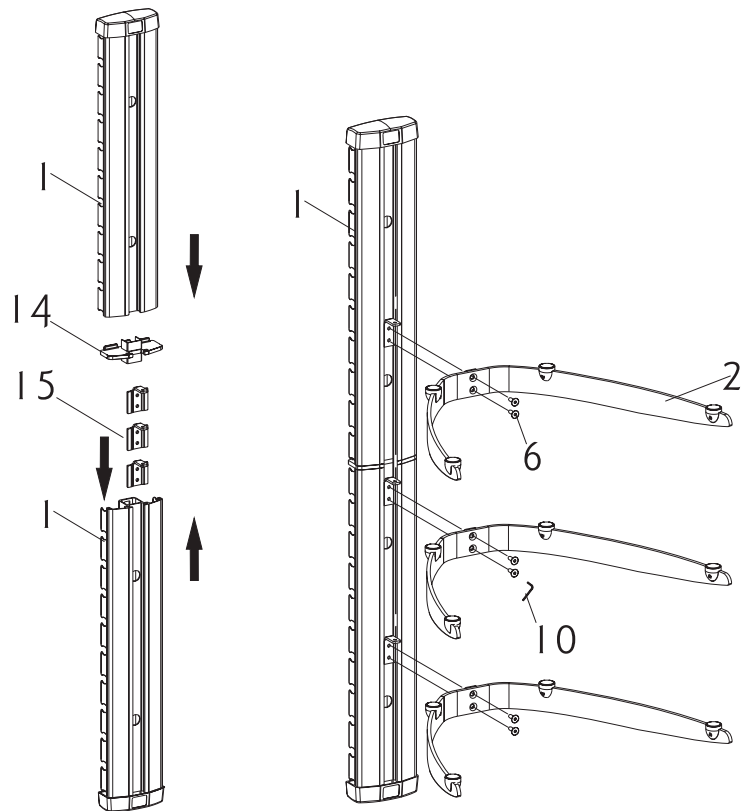

Fig. 2
Slide the three Joint Planks (15) into the Wall Brackets (1) and join the two Wall Bracket sections using the Joint Blocks (14) (see Fig. 2). Attach the three Shelf Brackets (2) to the Wall Brackets using the Socket Head Bolts (6) with the 3x3mm Hex Wrench (10). Do not overtighten the bolts.